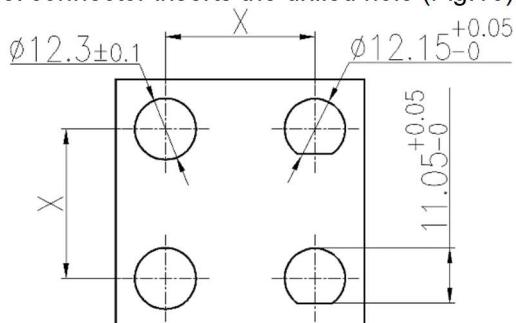

Figure 15
- ✧ 面板钻孔。钻孔的建议尺寸如图 15，所有钻孔边缘的毛刺需要清除。我们建议，无论水平或垂直结构，间距值 (X) 至少要有 25mm(如图 15)。
Drill holes at the panel wall. The proposed size of the borehole is shown in Figure 15. We recommend that the spacing value (X) is at least 25mm for both horizontal and vertical structures (Figure 15).